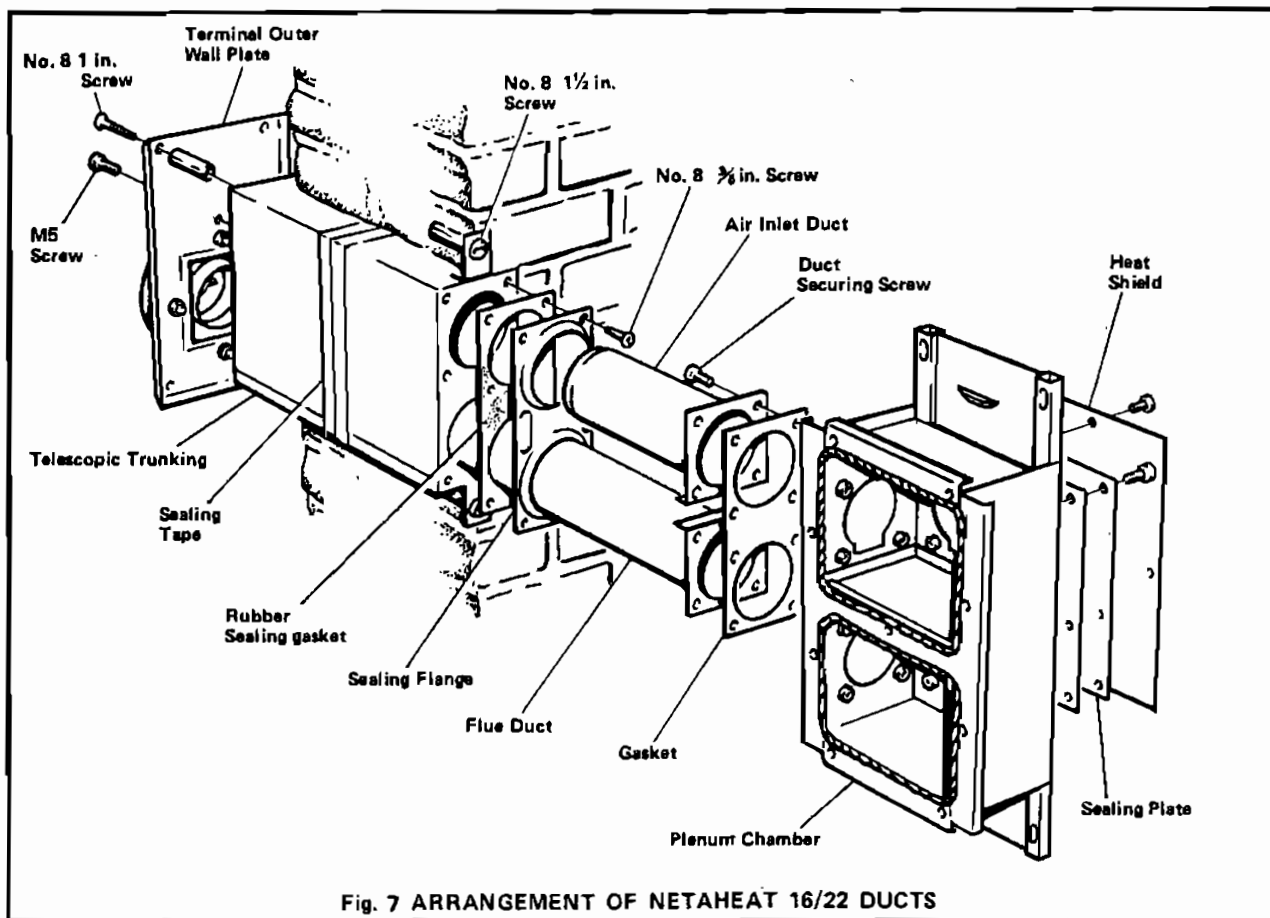

Fig. 7 ARRANGEMENT OF NETAHEAT 16/22 DUCTS
3.B. Potterton Netaheat 16-22 only – See Fig.7
9. Secure the duct sealing flange and rubber gasket see Fig.7, to the telescopic trunking using the six screws (Accessories pack item D).